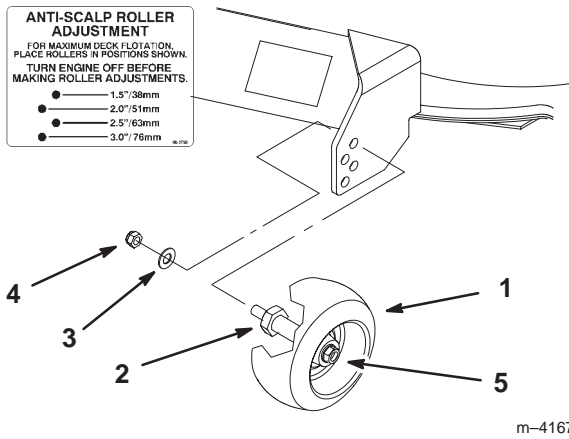

Figure 20
2. After adjusting the height-of-cut, remove the nut and washer while holding the stud with a wrench (Fig. 20).
- Note:** Do not remove the wheel nut and washer (Fig. 20).
3. Select a hole so that the gage wheel is positioned to the nearest corresponding height-of-cut desired (Fig. 20).
4. Reinstall the stud nut and washer (Fig. 20).